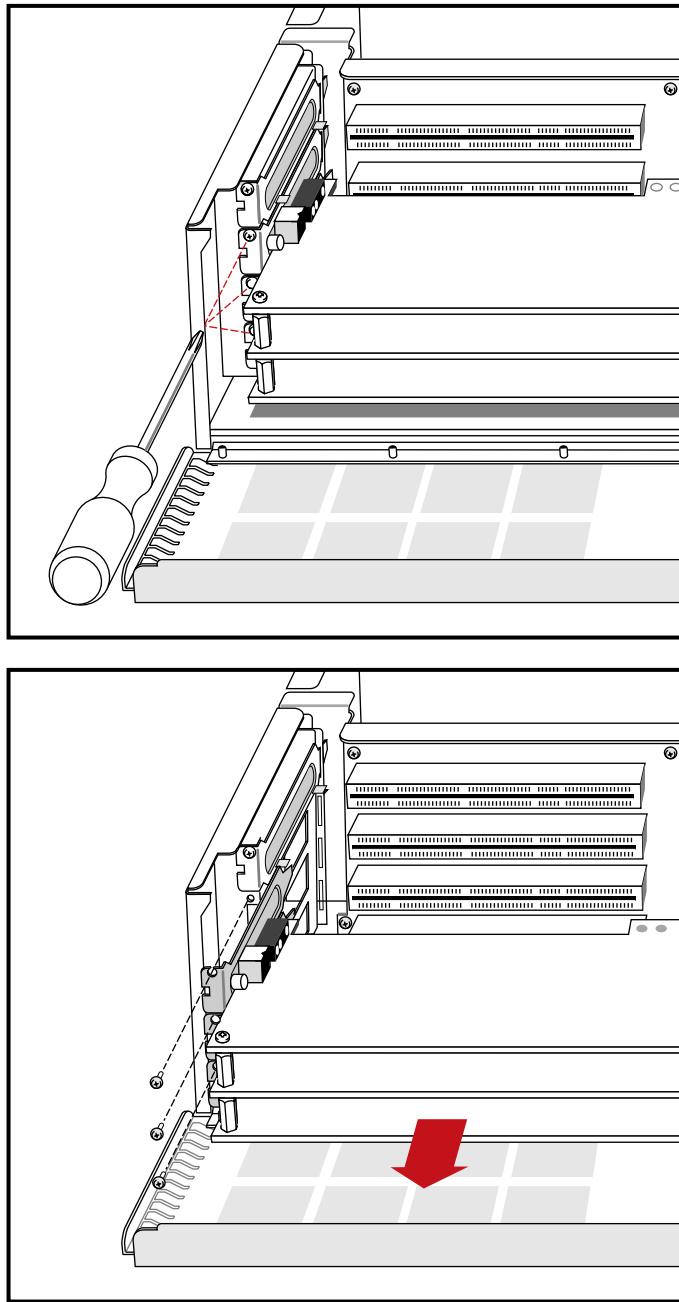

Figure 2-3 Board Removal Example
1. Lower the metal door that covers the GIO and EISA expansion slots, then unfasten the screws on the I/O plates that hold the graphics, EISA, or video boards to the chassis. Figure 2-3 shows a board removal example. Graphics boards, EISA, or video boards are all removed in a similar manner.